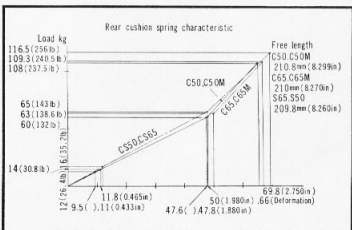

Figure 4-16. Characteristic of rear cushion
- (2) Rear cushion spring (Fig. 4-16)